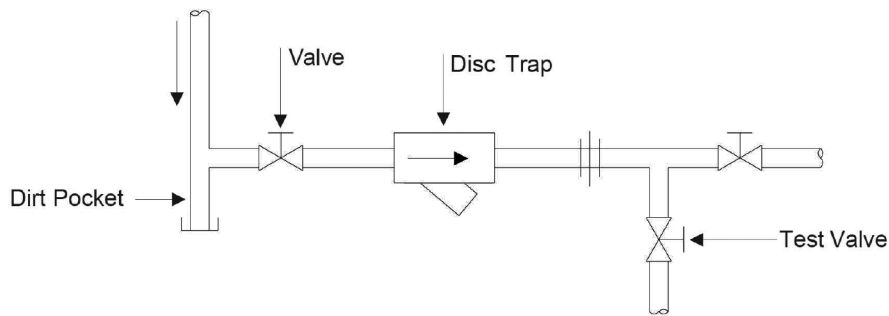

Figure 1
2. Install the trap inlet below the liquid level of the equipment to be drained. Figure 1 shows the recommended piping method. **Use good piping practices. Make inlet piping as short as possible. Use a minimum number of elbows and other restrictions in inlet and outlet piping. Install a dirt pocket in the line ahead of the trap.**